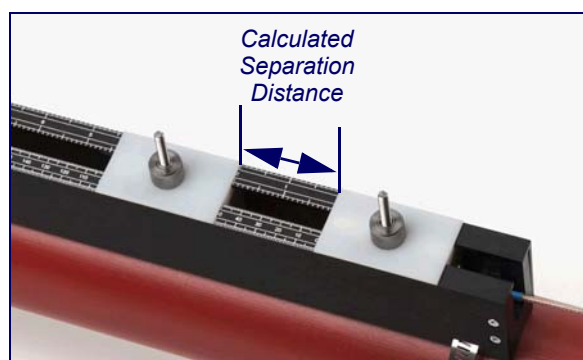

Figure 2.12
8. Position the upstream transducer so that the inner edge of its nylon flag is set to the required separation distance on the ruler, then lower the transducer onto the pipe by turning the thumb screw anti-clockwise, as shown in Figure 2.12 (50 mm in this example).